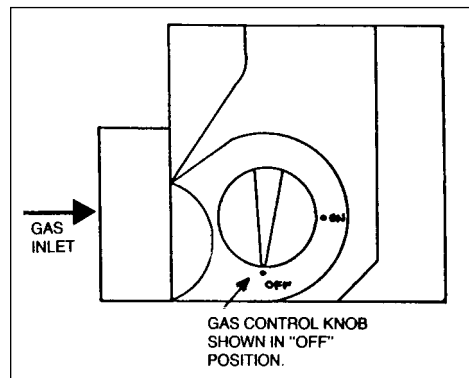

Figure 9. Valve VR8204 or VR8304
2. Intermittent Pilot System (IID). FOR BOILERS EQUIPPED WITH HONEYWELL GAS VALVE VR8204 OR VR8304 (see figures 9 and 10).